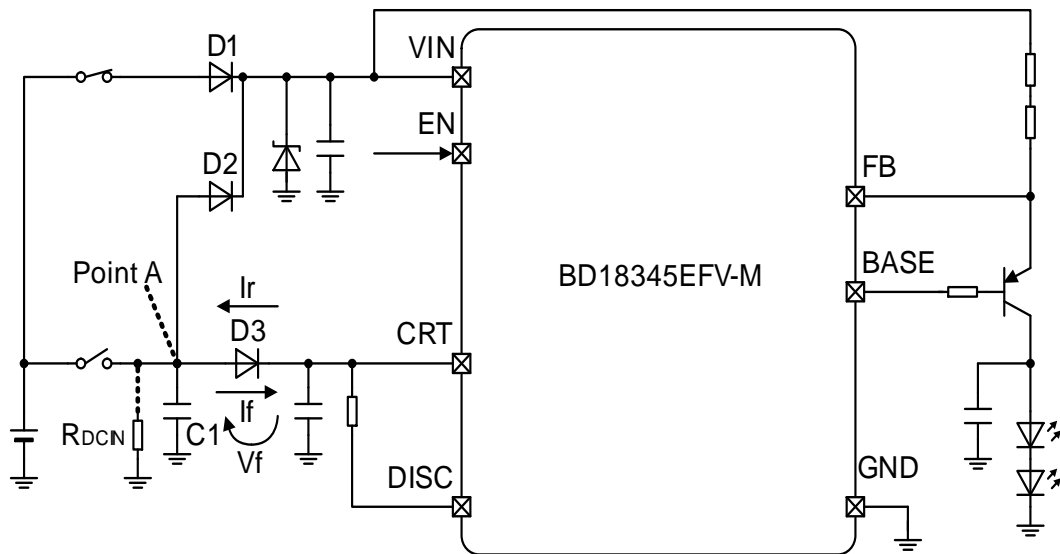

Figure 18. How Reverse Protection Diode Affects the CRT Pin Ramp Up/Down Time
- ① During the PWM dimming operation mode, Point A on Figure 18 is Hi-Z.
- ② Reverse current I_r of D2 and D3 goes to Point A.